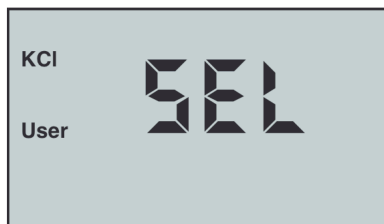

Figure 29
5. Press  or  keys to select a Standard Solution to be linked to the User mode calibration constant (see Figure 29). “**User**” is linked to “**KCl**”.